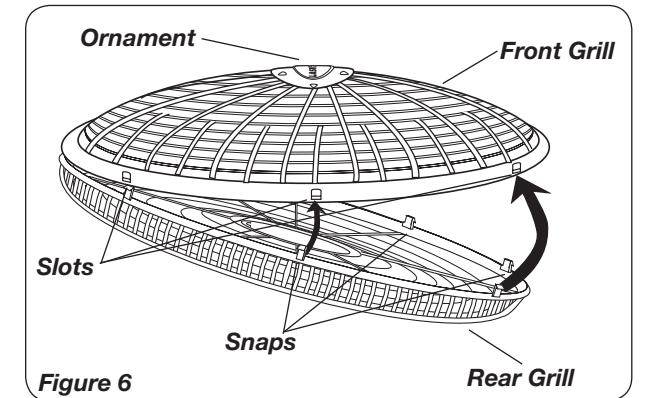

Figure 6
7. With fan head in upright position, align *Ornament* of *Front Grill* so it is horizontal. By starting with the top of the grill and working down, insert *Snaps* on *Rear Grill* through *Slots* in *Front Grill*. (Figure 6)